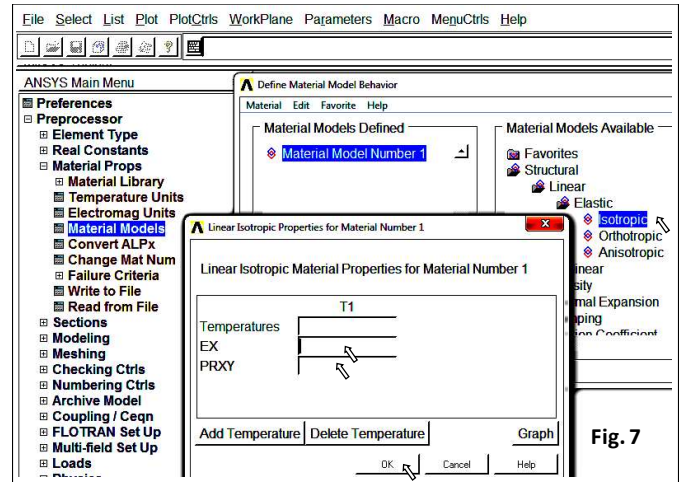

Fig. 7
3. Define linear isotropic material properties: E (Young's modulus) and ν (Poisson's ratio) (Fig. 7)